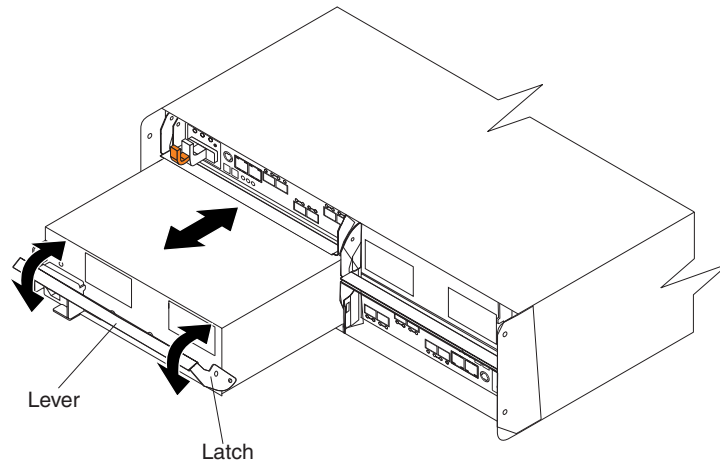

Figure 83. Replacing a power supply and fan unit
Use the following procedure to replace an ac power supply and fan unit. Figure 83 on page 143 illustrates removing and inserting a unit.
11. Slowly pull the lever away from the chassis to remove the power supply and fan unit, as shown in Figure 83 on page 143.